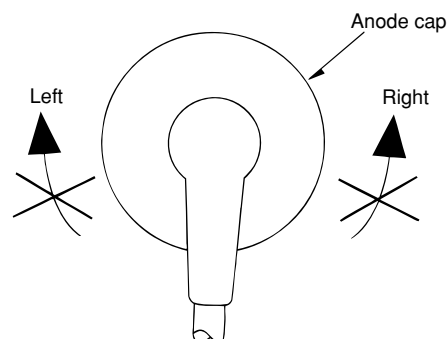

Figure 3-1
- (1) If the anode cap is turned after it is installed, it may come off. Therefore, arrange the high-voltage cable before attaching the anode cap. (See Figure 3-1)
- (2) If you have attached the anode cap before arranging the high-voltage cable, arrange the cable carefully so the cap does not turn.